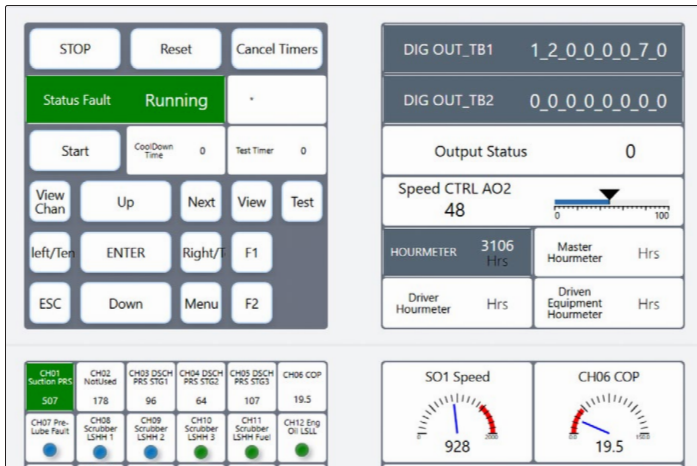

Figure 5
5. You will now see the default DE-3000 AWI on your PC. See *Figure 5*.